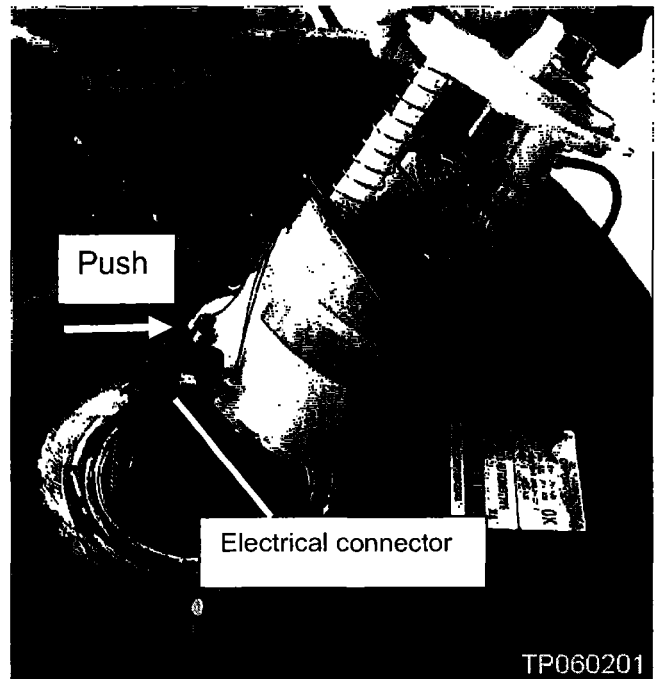

Figure 45
45. Connect the electrical connector shown in Figure 45.